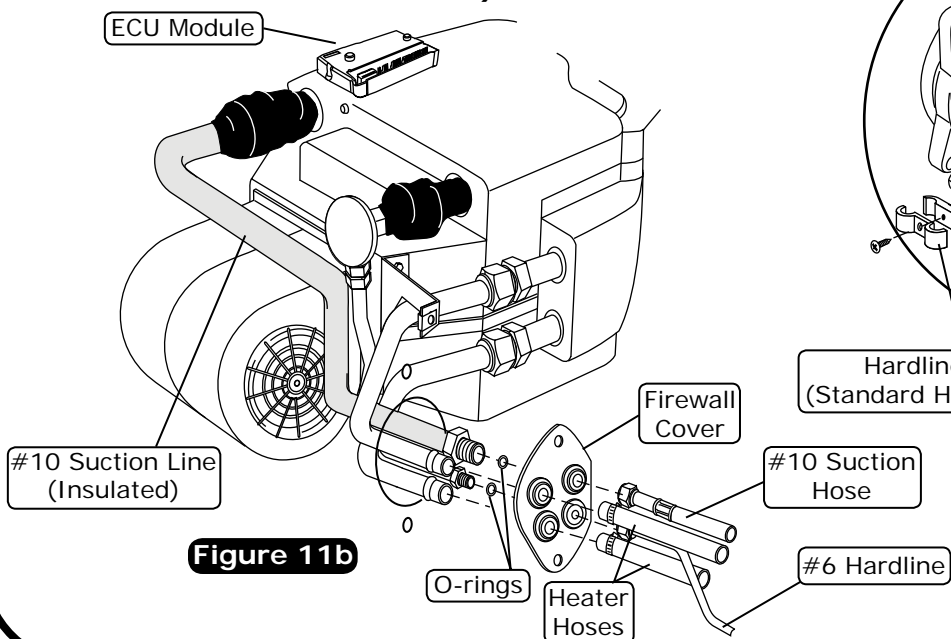

Figure 11b
7. Lubricate (1) #6 O-ring (See Figure 9, Page 13). Install the #6 liquid line and tighten (See Figure 9, Page 13, and Figure 11b, Page 15).